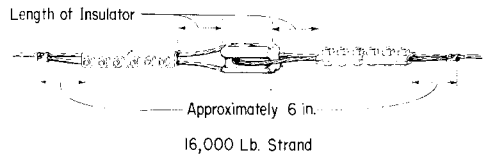

Fig. 10—Installing Strain Insulator in 16M Strand
- (d) **16,000 Pound Strand:** Use a B strand grip on each side of the insulator. Alternatives: Use two 3-bolt guy clamps or a long bail strandwise on each side of the insulator. (See Fig. 10.)